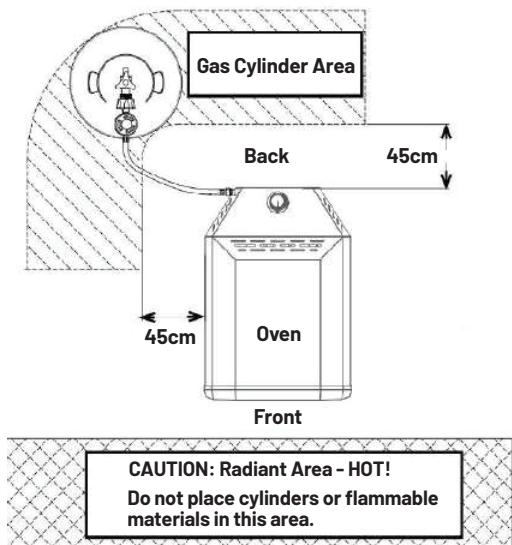

Figure 4
5. Maintain a minimum distance of 45 cm between the appliance and the cylinder (Figure 4).